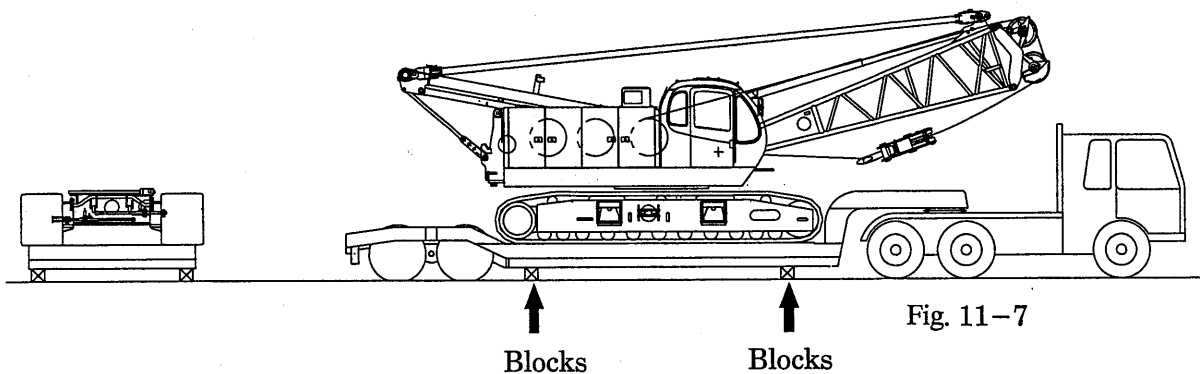

Fig. 11-7
- (1) In order to prevent the trailer from swaying, place four wooden blocks under the trailer as shown in the figure below, or support with jacks. (Fig. 11-7)
- (2) Check that the trailer is not damaged when the machine is jacked up at the specified position or is supported through the wooden blocks. Check the position of the trailer's frame members for jack-up.